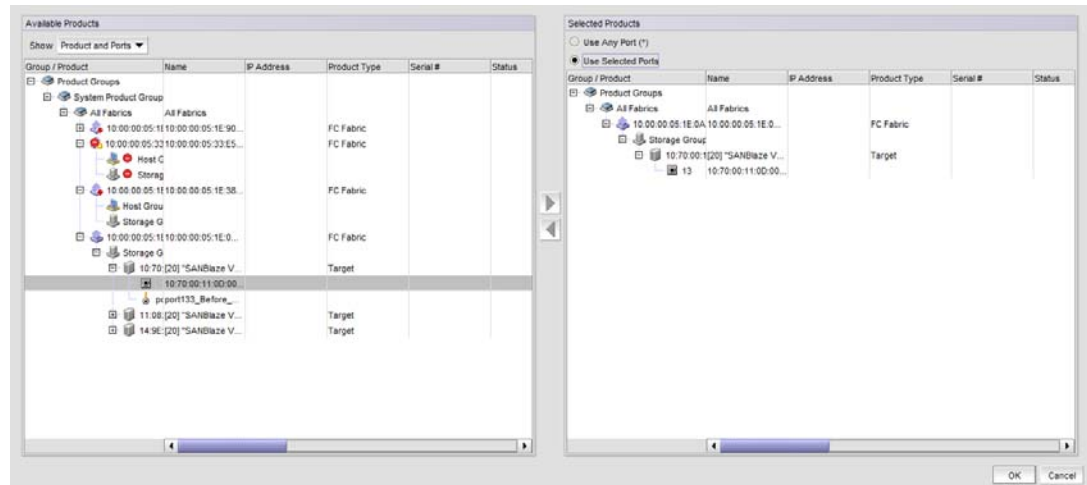

FIGURE 425 Select Device Ports dialog box. (Products and Ports selected)
- Selecting **Products and Ports** from the **Show** list displays available fabrics, devices, and ports as in Figure 425.